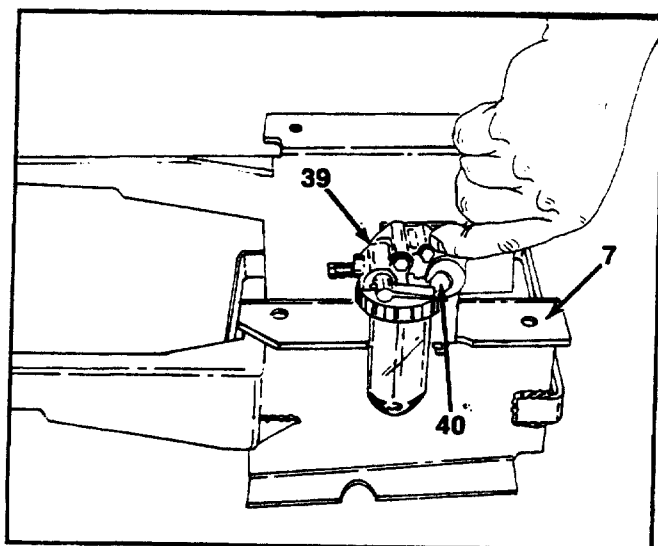

FIGURE 24.
22. Remove the secondary fuel filter from the engine cradle, by removing one hex bolt. See figure 24.